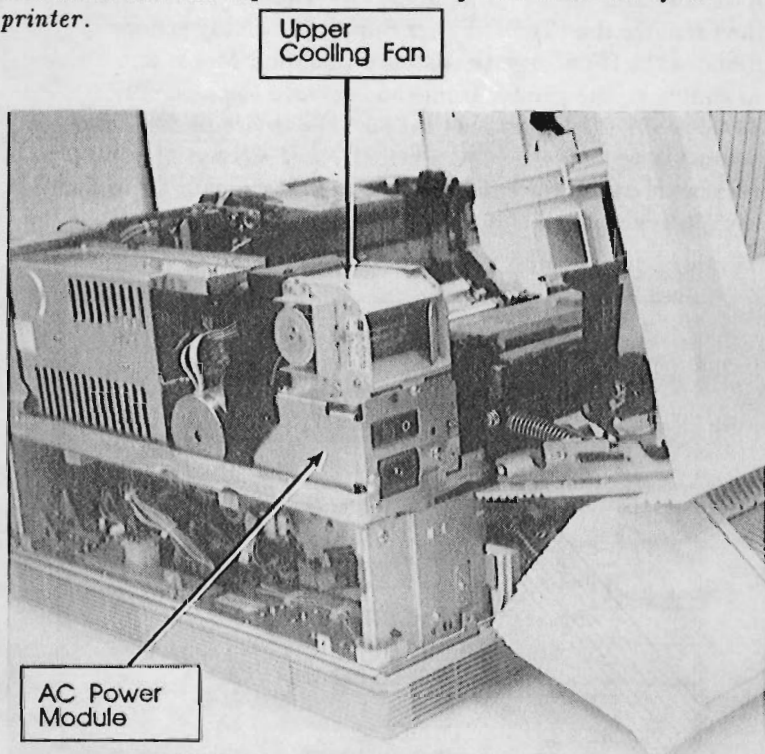

Figure 6-23. AC Power Module and Upper Cooling Fan
The Ozone Filter is contained in the Ozone Filter Mount shown in Figure 6-23. The entire AC Power Module does not need to be removed to remove the Ozone Filter. To remove the Ozone Filter Mount in both printers:
2. Remove the (3) screws that secure the Upper Cooling Fan to the AC Power Module (see Figure 6-23). Remove the fan connector.
The AC Power Module, located below the Upper Cooling Fan, is shown in Figure 6-23. The Circuit Breaker is located at the frontmost end of the AC Power Module beneath the Ozone Filter Mount.